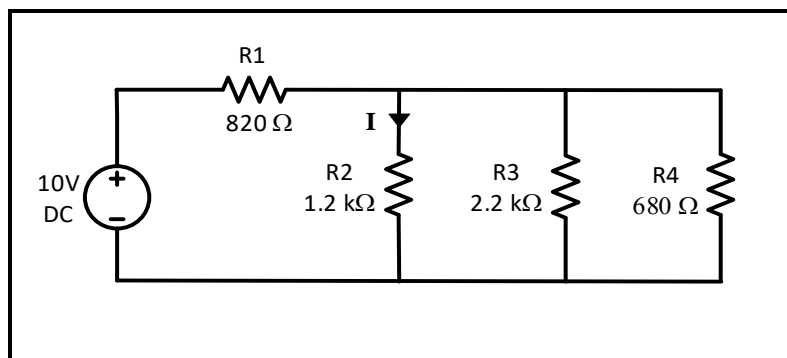
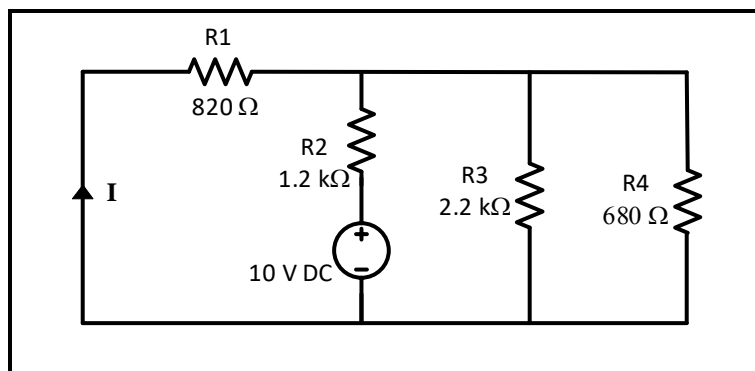

Figure 4.9
Figure 4.10
1. Simulate the circuits of Figure 4.9 and Figure 4.10 using PSPICE to find the value of the current (I).
1. Connect the circuit of Figure 4.9, measure and record the current I in Table 4.9.
2. Connect the circuit of Figure 4.10, measure and record the current I in Table 4.9.